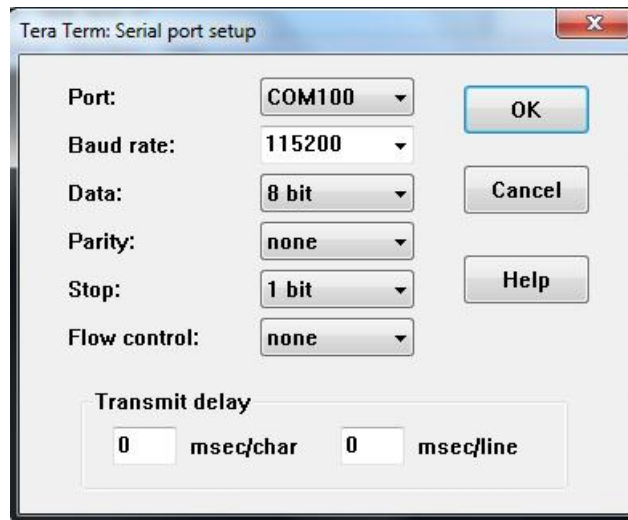

図 11. Serial Port Setup for CLI
The gateway can be controlled or monitored using the CLI over UART. To start CLI, open any terminal application on the laptop or PC that is connected to the gateway. 図 11 shows the serial port setup for CLI.
2. Setup the serial port with baud rate 115200 as shown in 図 11.